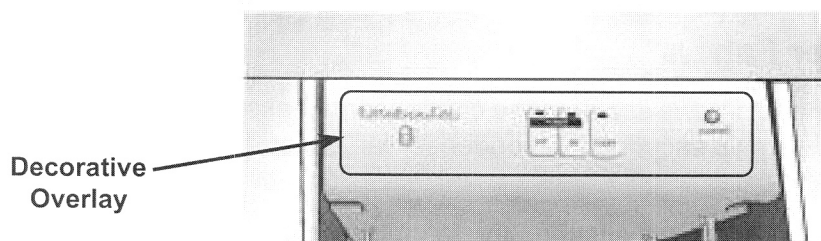

Fig. 3-10
2. Remove the decorative overlay from the front of the control box. (Fig. 3-10)